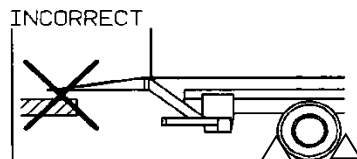

FIG. 2
- When unloading, the rebound clearance of the vehicle is not compensated; therefore the platform must be re-adjusted (opened). Otherwise the tip of the platform can be overloaded, risk of serious damage is possible (Fig. 2)